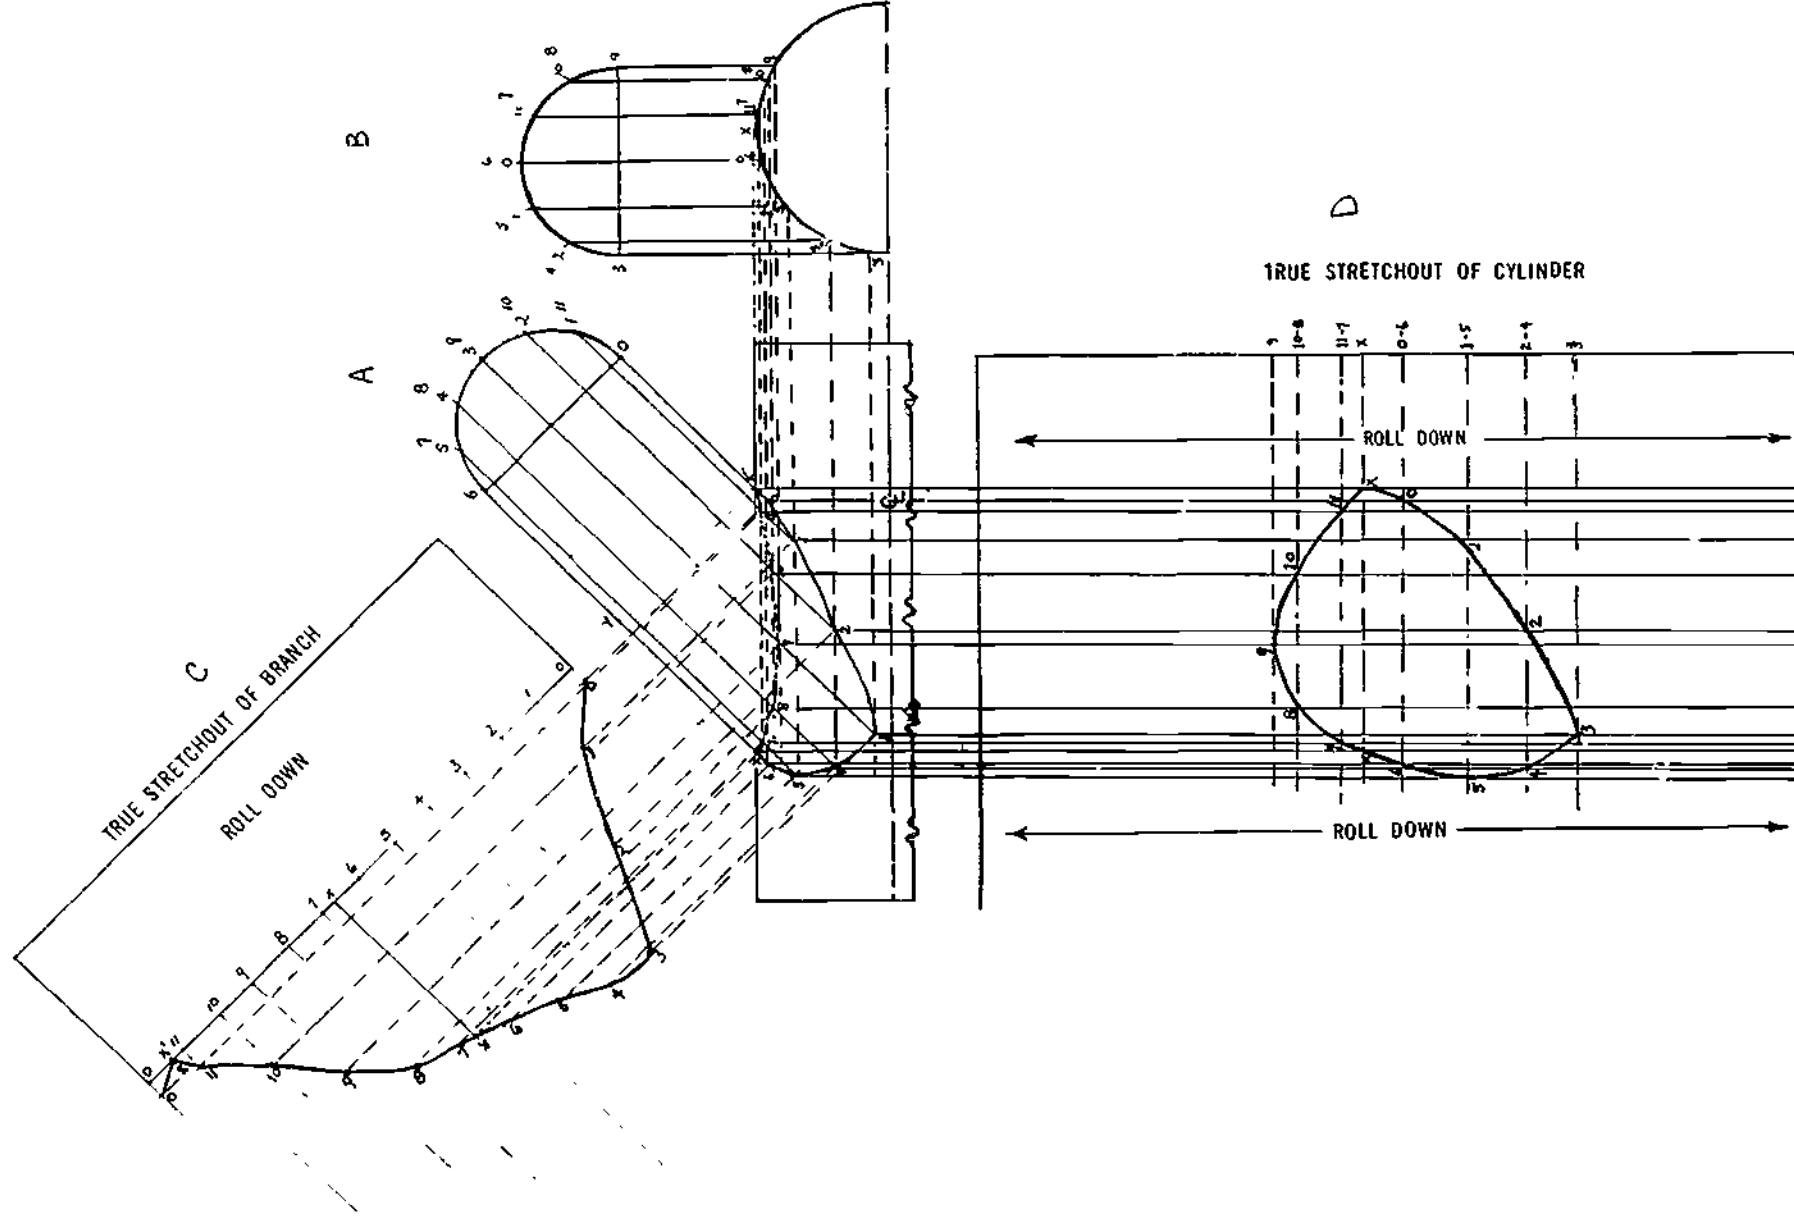

Figure 5-35. Oblique Tee at 45°, Unequal Diameter Pipes
- Step 1 To develop the pattern in Figure 5-35, draw side elevation A and end elevation B. In a true end elevation, the top of the branch pipe would be shown as an ellipse. This representation, however, does not assist in the pattern development and is therefore shown as a straight line 3-9.
- Step 2 Describe semi-circles on each of the branch pipes, divide and number as in Figure 5-35. Project the lines downward in each case parallel to the pipe wall.